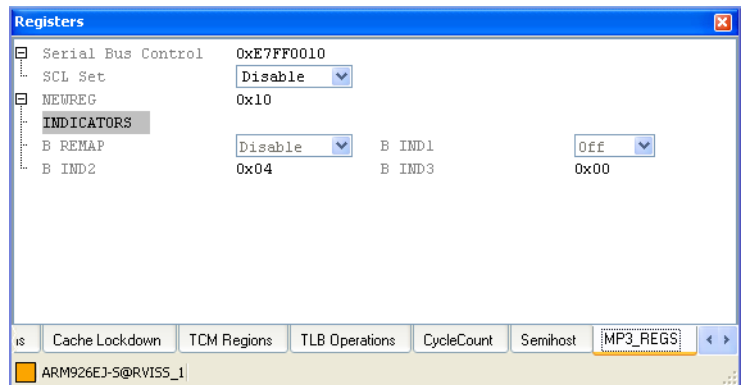

Figure 4-31 MP3_REGS tab in the Registers view
3. Select the **MP3_REGS** tab to view the custom registers. Figure 4-31 shows an example: